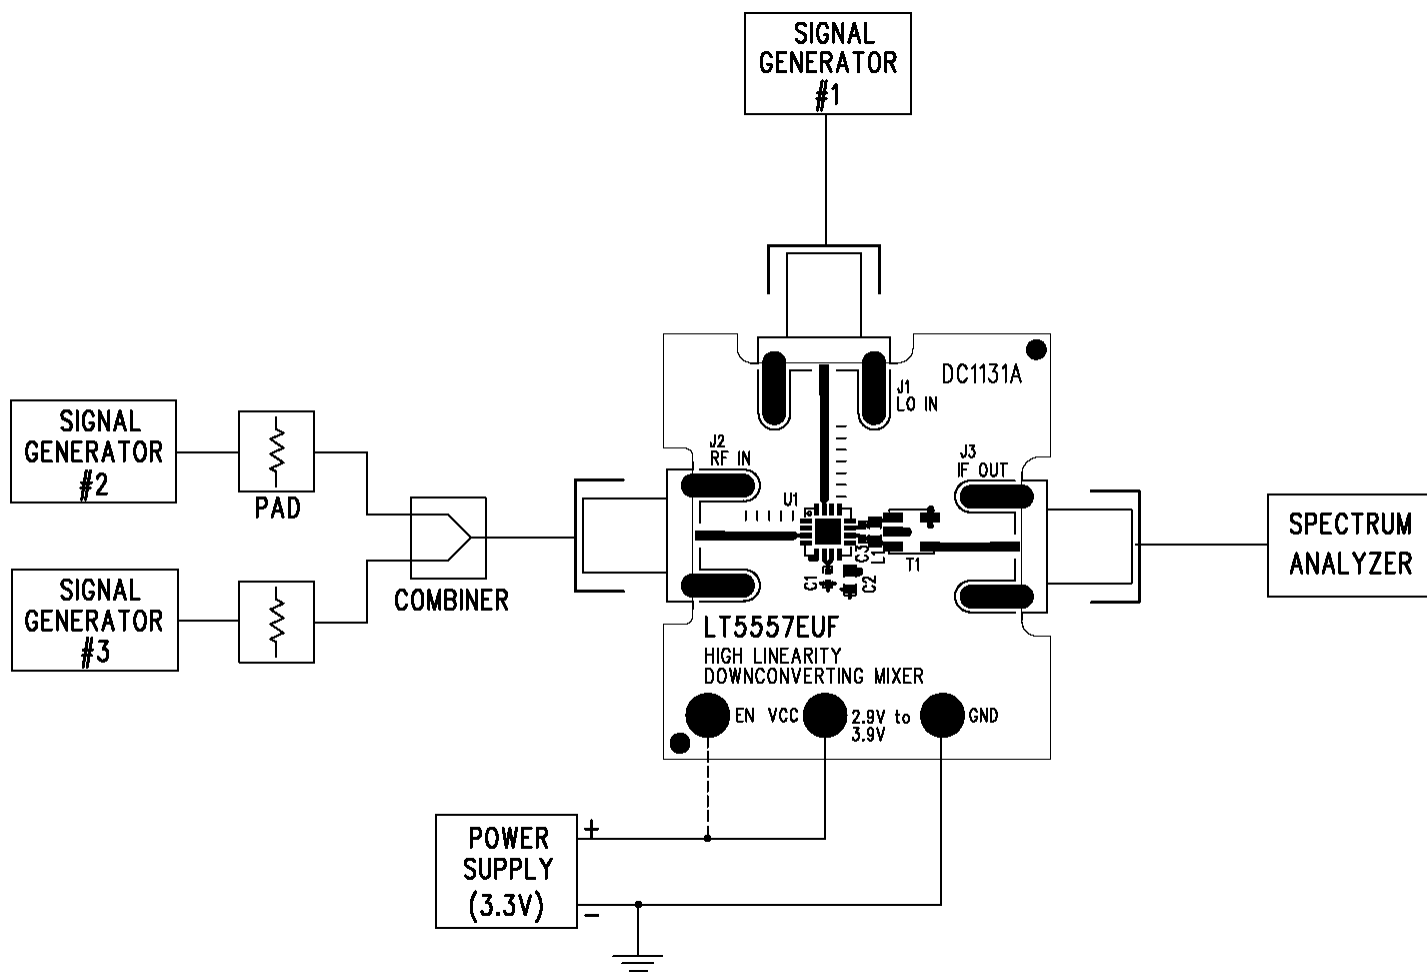

Figure 1. Proper Measurement Equipment Setup
Demonstration circuit 1131A is easy to set up to evaluate the performance of the LT5557. Refer to Figure 1 for proper measurement equipment setup and follow the procedure below:
Refer to Figure 1 for proper measurement equipment setup.
1. Connect all test equipment as shown in Figure 1.